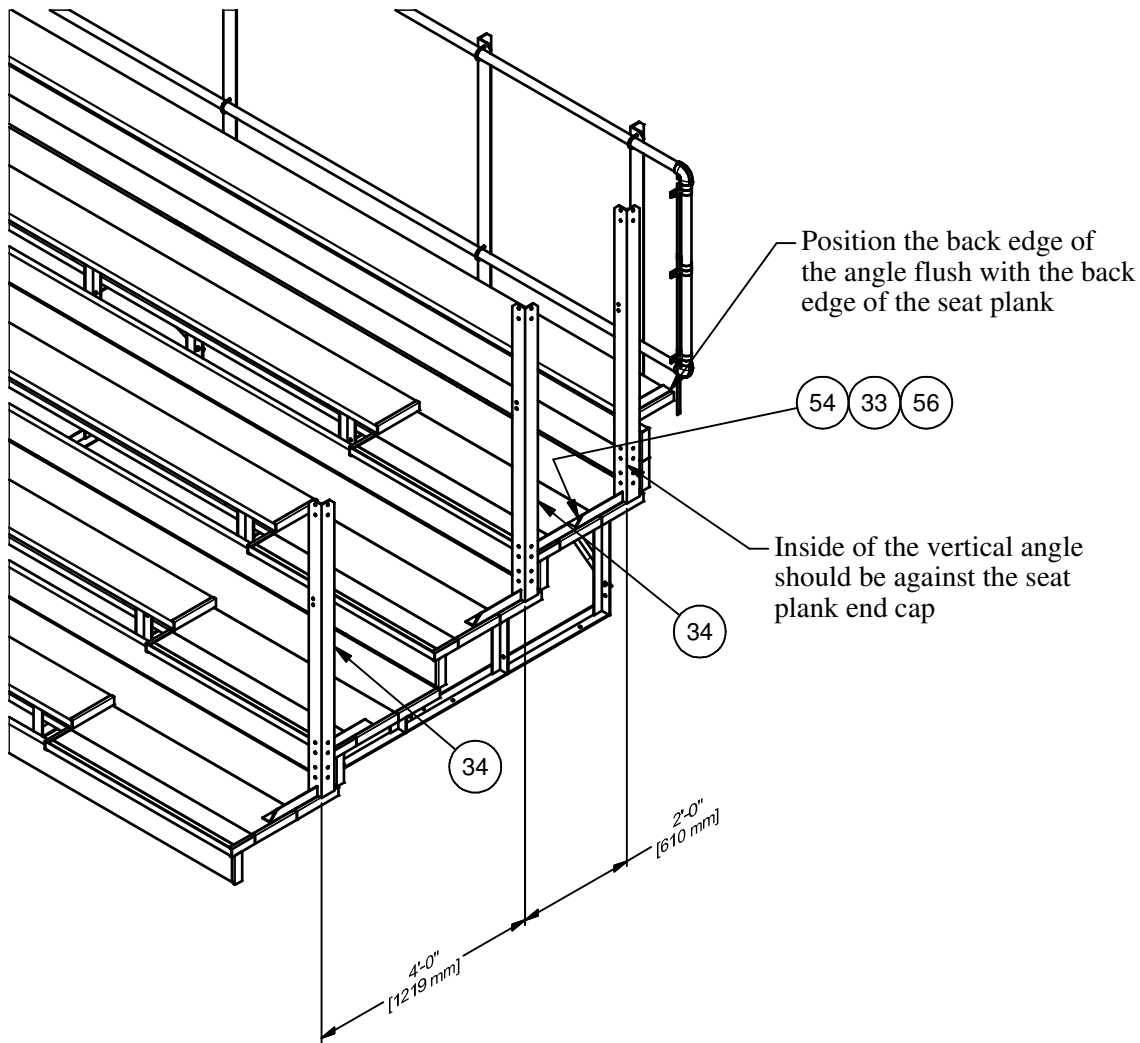

Figure 13
19. Install the LH side rail weldments onto the aisle end of the bleacher. Locate one seat vertical on the top row and two aisle verticals on the 4th row, and on the 2nd row. Position the verticals as shown in Figure 13. On the top row vertical, use the holes in the angles as guides and drill the four 3/8" holes through the seat plank (2 holes) and the foot planks (2 holes). On the remaining verticals, use the holes in the angles as guides and drill the four 3/8" holes through the foot planks (2 holes each level).